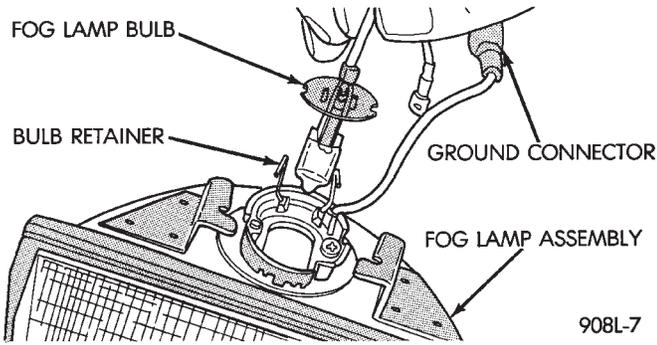

Fig. 10 Fog Lamp Bulb
- (5) Remove the socket cover and squeeze the bulb retainer clip together. Pivot the retainer aside and remove the bulb/pigtail assembly from the lamp (Fig. 10). The pigtail disconnection is made inside the harness boot. Do not remove the wiring harness ground screw or ground wire from lamp assembly.